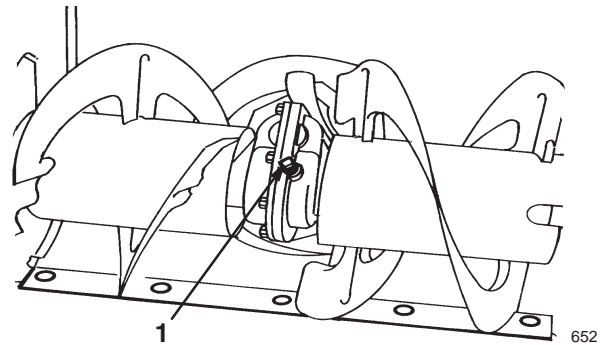

Figure 18
4. Clean the area around the pipe plug (Fig. 18).
5. Remove the pipe plug from the gearbox (Fig. 18).